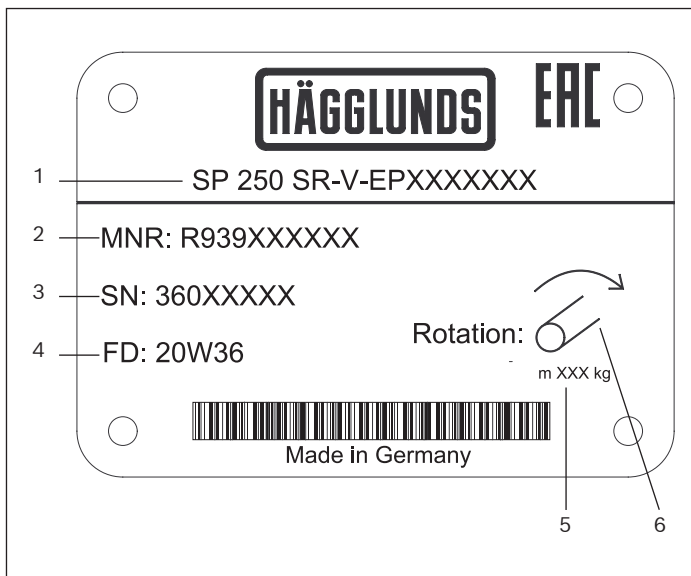

Fig. 1: Example identification plate
In order to identify Hägglunds equipment exactly, the following ordering code is used. These ordering codes should be stated in full in all correspondence including serial number (SN), see Fig. 1, e.g. when ordering spare parts.